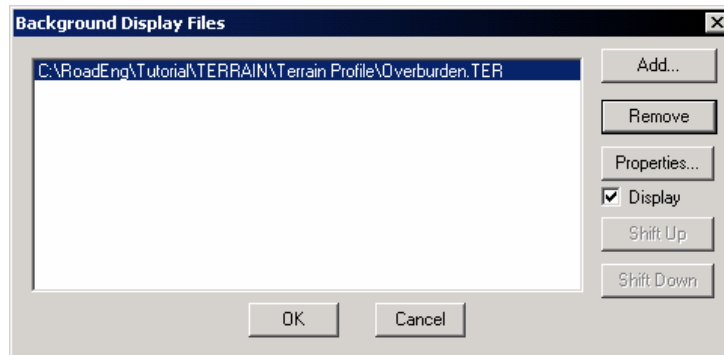

Figure 9.5: Background Display Files Dialog
12. View | Active Window (Profile) Options. Ensure *Background* is enabled and press the plus sign beside it to open the dialog box shown in Figure 9.5.